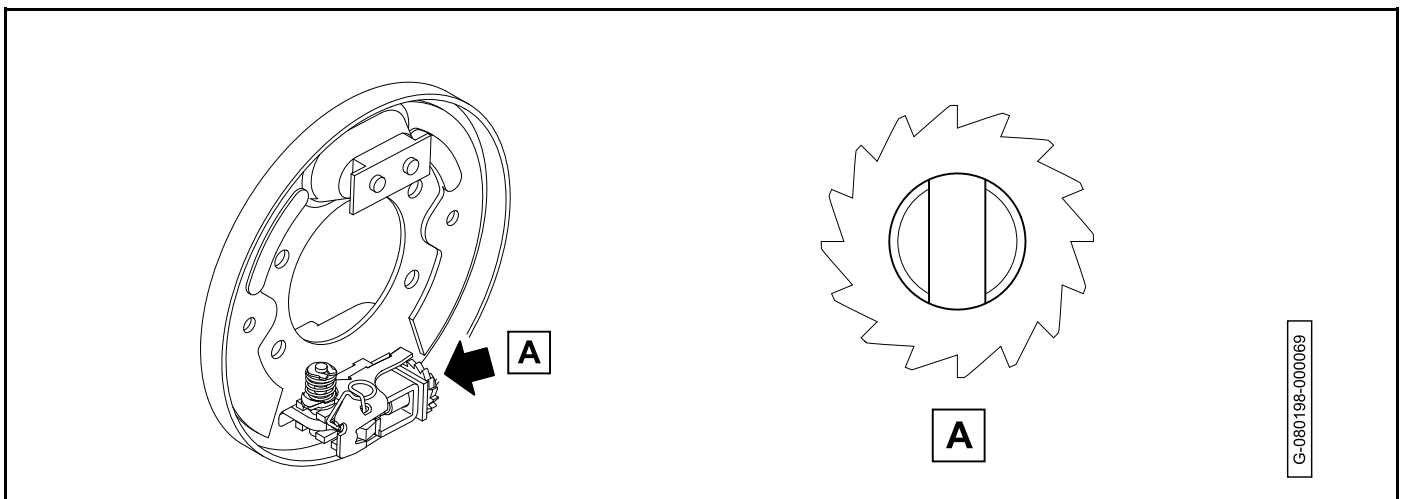

Figure 6-12
2. Turn the adjusting wheel screw so that the shoe slot is vertical (A) (**Figure 6-12**).